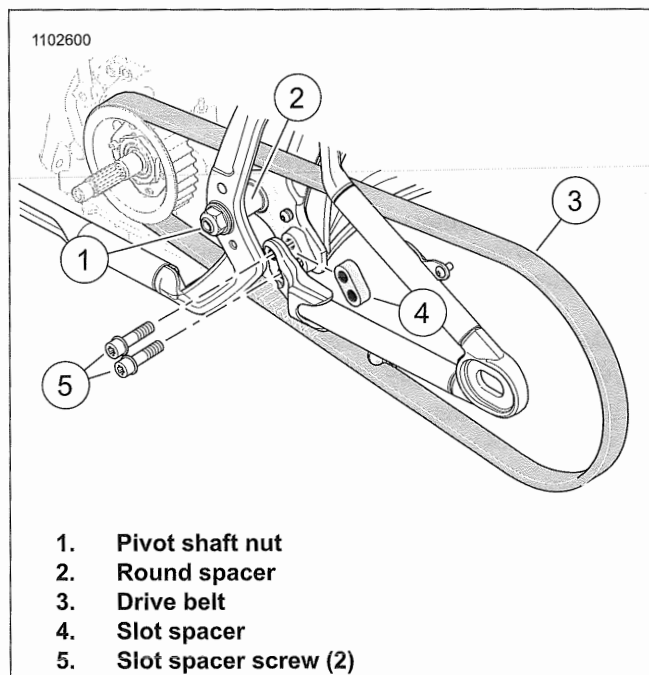

Figure 5-2. Drive Belt
1. See Figure 5-2. Loosen pivot shaft.
- c. See Figure 5-2. Slide pivot shaft out enough to remove round spacer (2).
- a. Remove screws (5).
- b. Remove slot spacer (4).
3. Remove belt (3).
1. See Figure 5-2. Install drive belt (3) on final drive sprocket.
- a. Position round spacer (2) between drive belt (3), frame and rear fork.
- c. Install pivot shaft nut (1). Tighten.